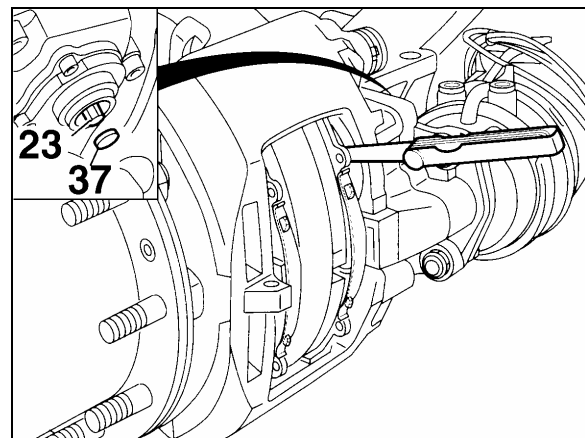

FIGURE 24: RUNNING CLEARANCE
- a) Remove cap (37, Fig. 24).
- b) Using a box wrench (8 mm), turn the adjuster pinion (23, Fig. 24) counterclockwise about 2 - 3 clicks to increase running clearance. By operating the braking system